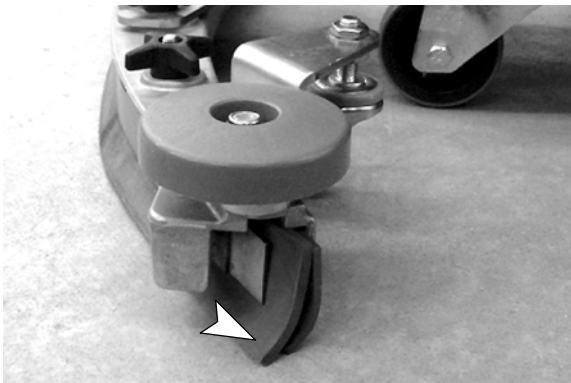

FIG. 62
3. During machine operation, with the casters properly adjusted, the squeegee blades should deflect as shown (Figure 62).